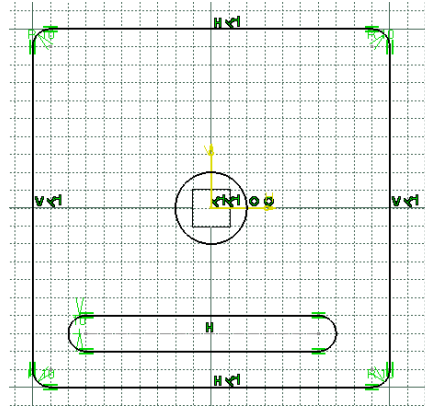

Figure 3-47 The sketch after drawing the elongated hole
6. Move the cursor vertically upward and click to specify a point on the elongated hole at the location where the radius value is displayed as **10** in the **Radius** edit box. Figure 3-47 shows the sketch after drawing the elongated hole.